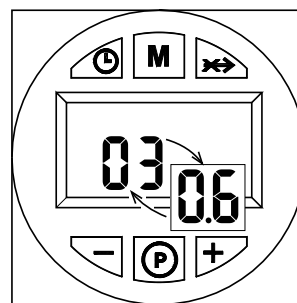

fig. 4
- The software version of the user interface and the controller (fig. 4)